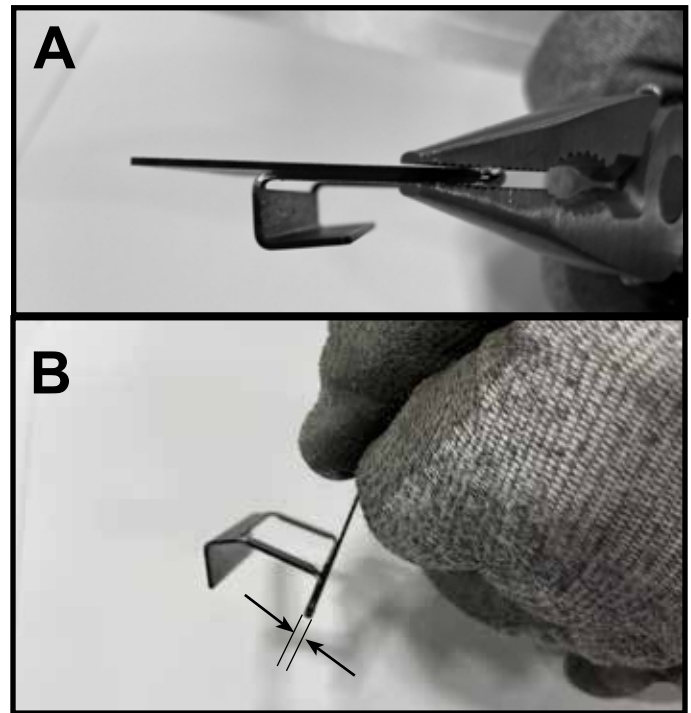
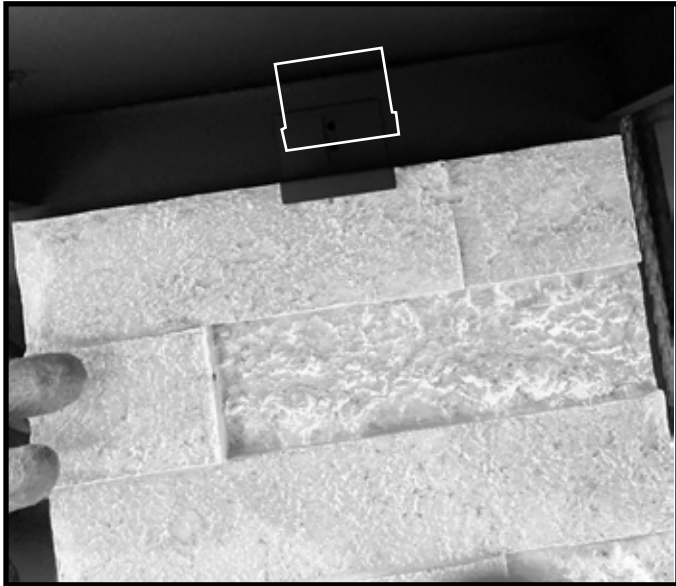

Figure 6 Flattening of Side Brackets - All Models
Figure 17 Center Refractory Bracket on Panel
5. When installing refractory brackets on the side refractory panels, the bend created in Step 2 should be flattened with a pliers so that the bracket does not create a space between the refractory panel and the firebox. See Figure 6.
5. Install the refractory bracket on the refractory panel and center it as shown in Figure 17. Make the necessary adjustments to the clip as shown in Figure 6.
12. Adjust all four refractory brackets as needed per Figure 6.